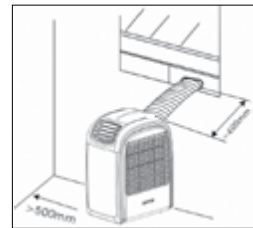

Fig. 1.
- 1) Ensure at least 50 cm of free space on the filtering side of the unit (Fig. 1).